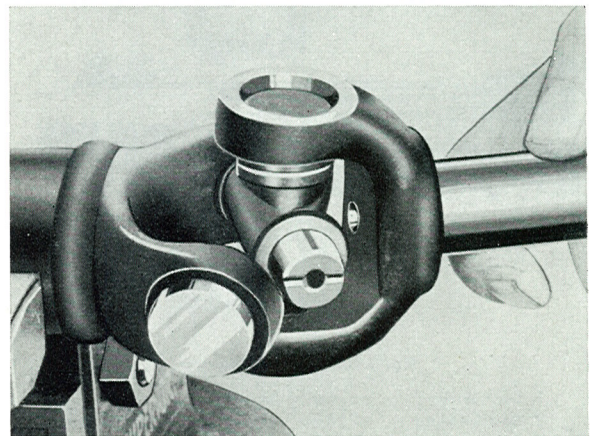

Fig. 4-74. Removing the spider, II
5. Drive out one of the needle bearings with a thin metal punch. Remove the spider, see Fig. 4-74. Drive out the other needle bearing.